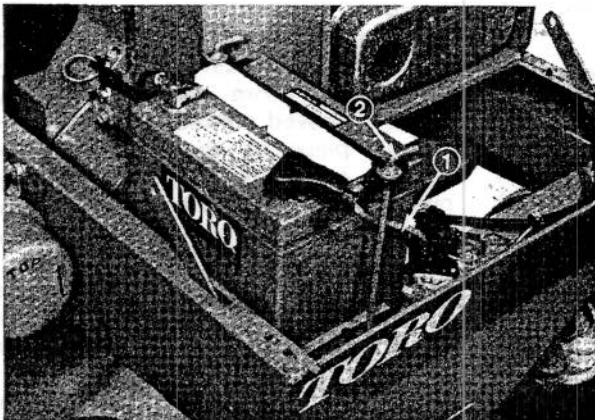

Figure 14
1. Mount battery on base plate (Fig. 14).
Note: Position the positive battery cable between the battery case and the hold down bolt (Fig. 14).